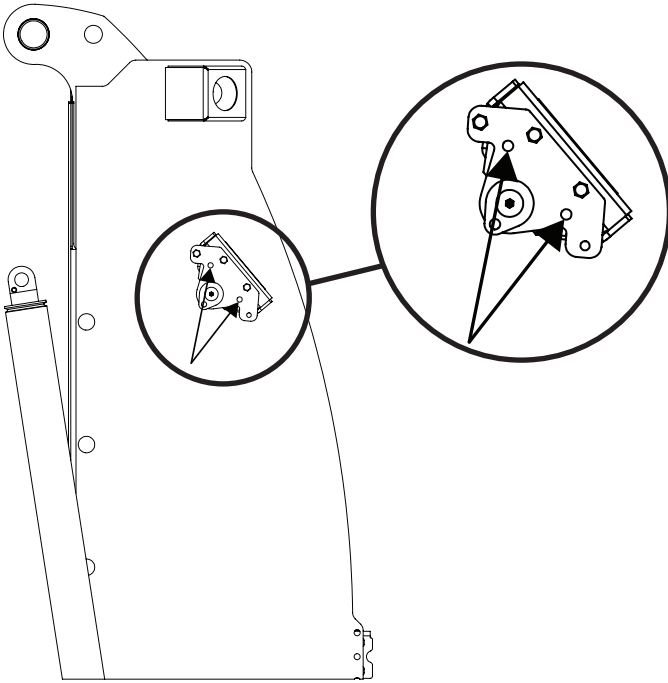

Figure 7
3. Mark these hole locations and drill to 27/64" diameter (0.422Ø) (Figure 7).